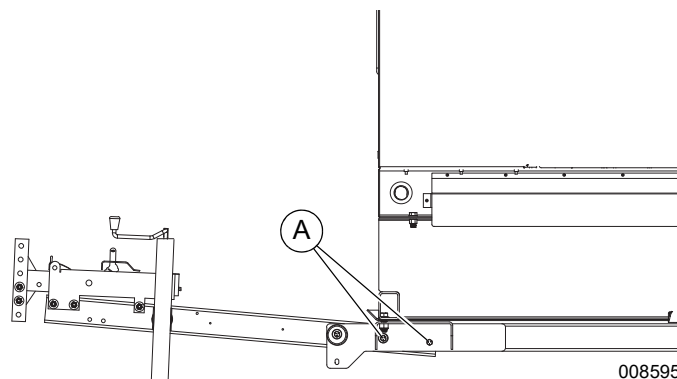

Figure 1-2. Lowering Trailer Tongue
3. Remove the shipping brace and slide it into the trailer tube opening. Secure the brace to the trailer with the bolt located on the underside of the trailer (B) and a new nylon locking nut.
4. See Figure 1-2. Flip the trailer tongue down and reinstall the bolts and washers removed in step two using two new nylon locking nuts (A). **DO NOT** reuse the nylon locking nuts. Tighten the bolts to 80–109 ft-lb (108–148 Nm)